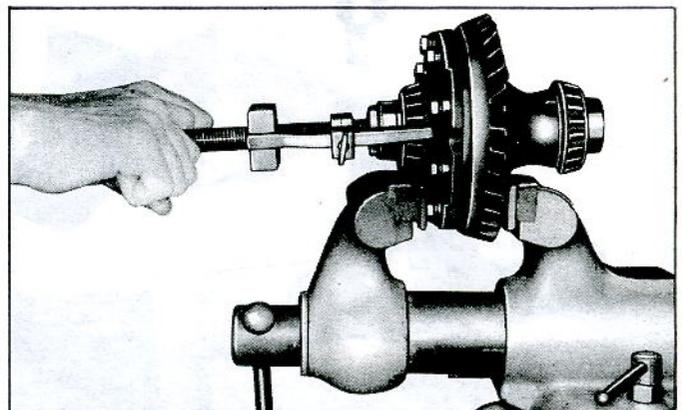

Fig. 28—Removing Differential Side Bearings
1. If replacement is necessary, remove differential side bearing(s) with J-7112 Puller and J-8107-2 Pilot as shown (fig. 28).